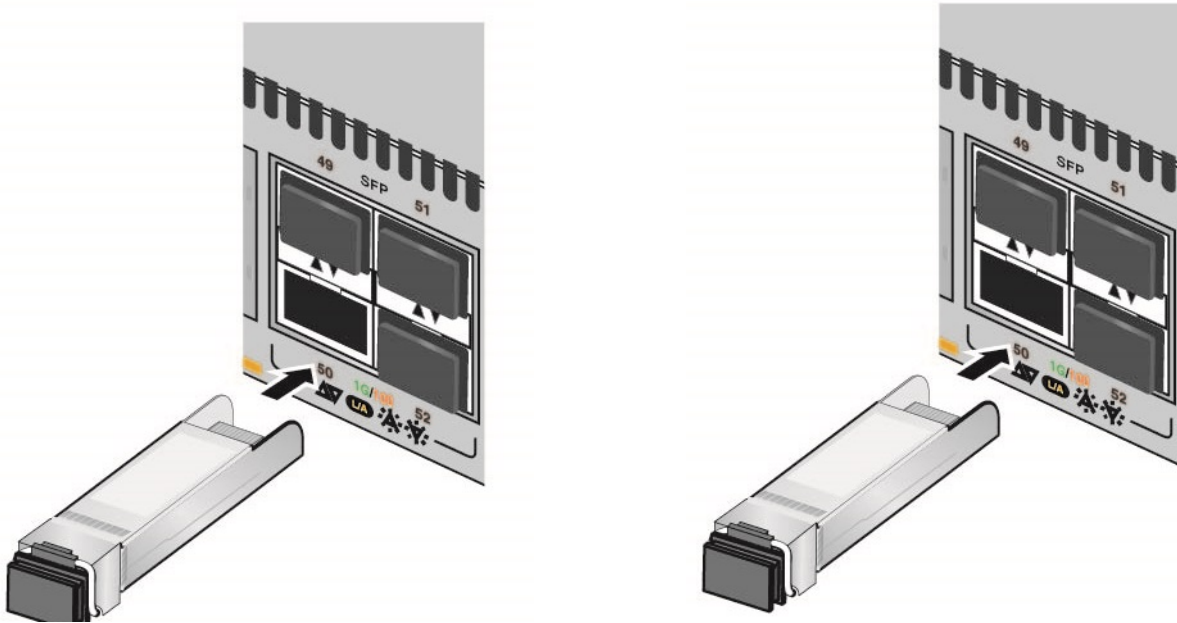

Figure 66. Installing SFP+ Transceivers
4. Slide the transceiver into the port until it clicks into place, as shown in Figure 66 on page 178.